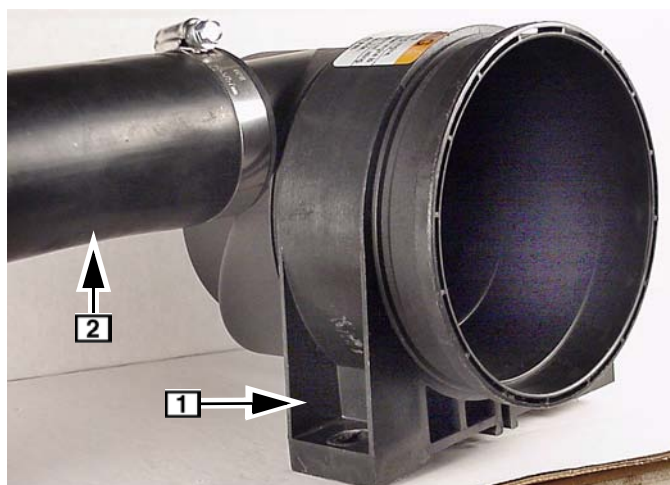

Fig. 177
1. Assemble mounting bracket to air cleaner housing with front mounting hole **1** towards air inlet side **2**, Fig. 177.